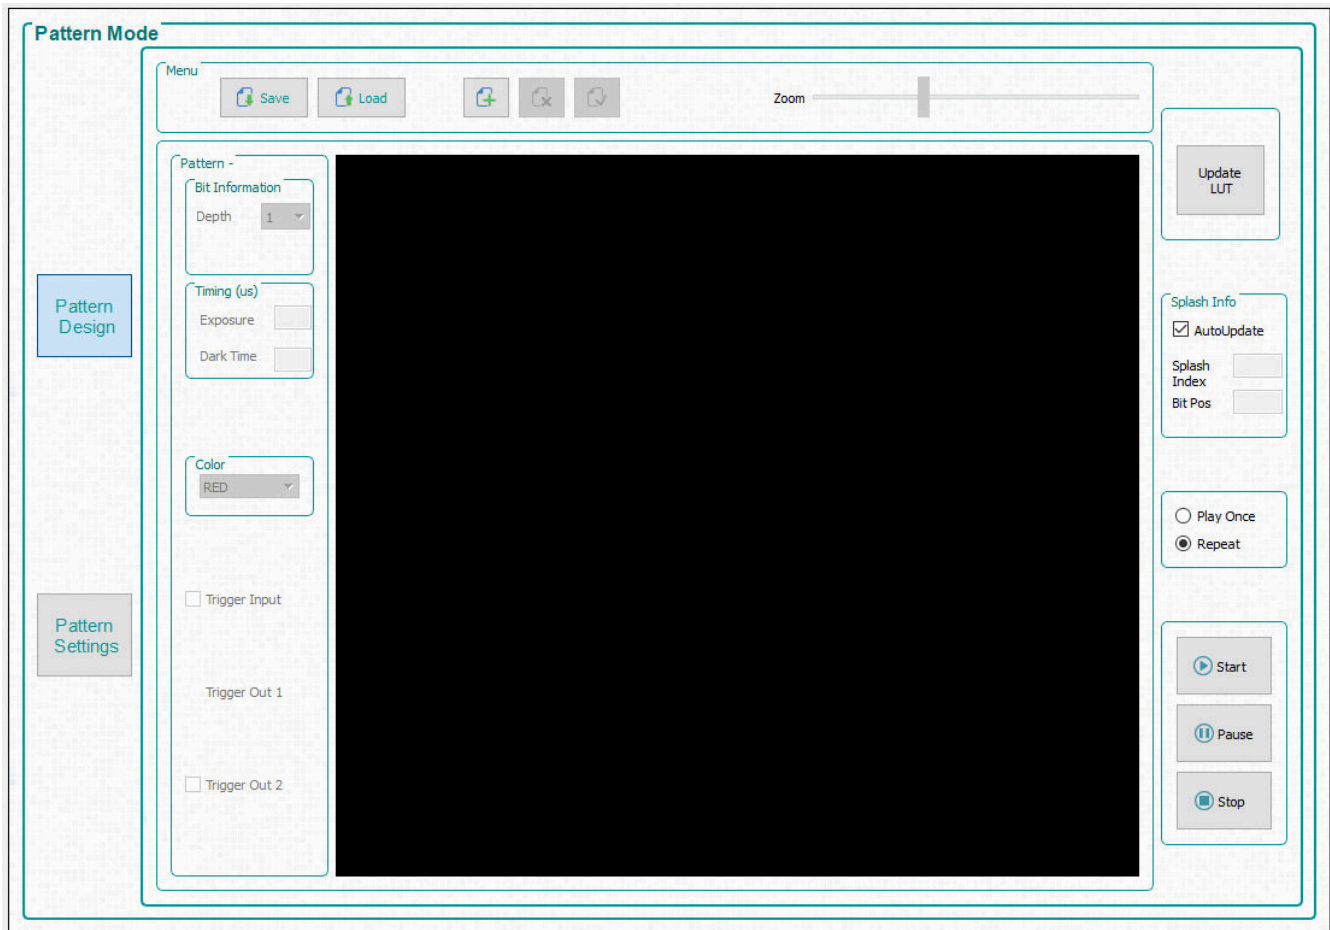

Figure 4-6. Pattern Mode Design Panel
Click the *Pattern Mode* button at the top of the GUI to display the *Pattern Mode* panel as shown in Figure 4-6.
2. Select *Pattern On-The-Fly Mode* from the *Operating Mode* group box, and then click the *Pattern Design* button so that the large black panel is displayed as shown in Figure 4-6.
4. Select *Video Pattern Mode* from the *Operating Mode* group box, and then click the *Pattern Design* button so that the large black panel is displayed as shown in Figure 4-6.